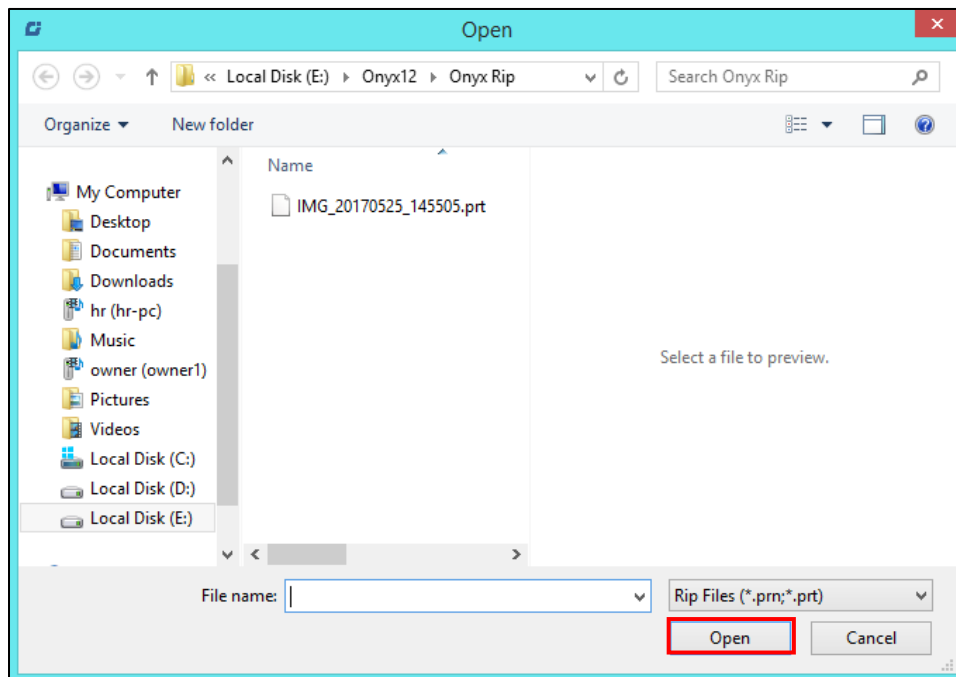

Fig 33: Adding the Job
Step 2: Navigate to the location where the image file with extension **".prt"** and **".prn"** is stored (Refer to Fig 33).